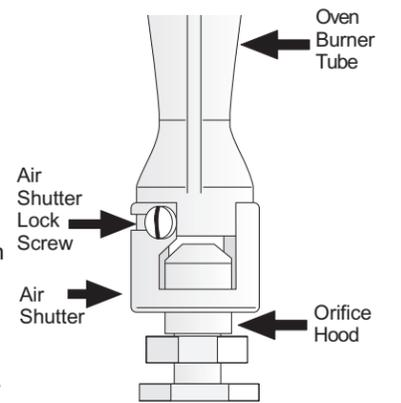

Fig. 8
- Check air shutter adjustments on oven burner (See Fig. 8).